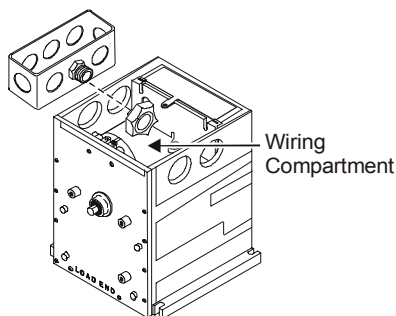

Figure 2: Wiring Compartment
- Locate all splicing and excess wiring outside the actuator wiring compartment. If desired, add a standard electrical box to the actuator's wiring compartment. (See Figure 2.)